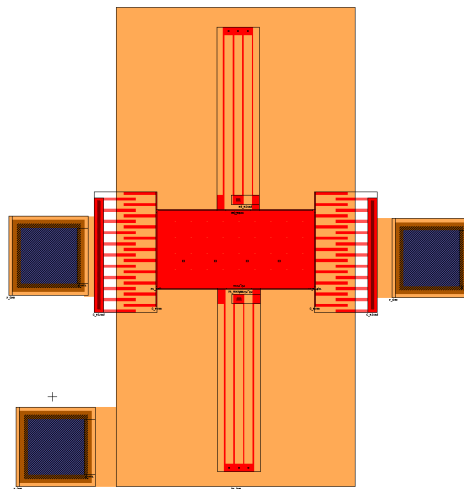

Figure 24: Final view of the lateral resonator
- ☑ Home the view, then move the ground plate so that it covers all the moving parts of the resonator (refer to Figure 24).